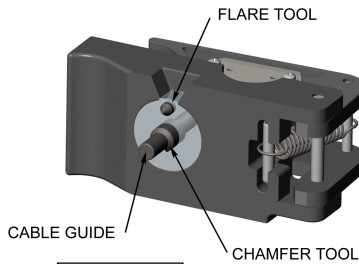

Figure 6.
7. Prepare the end of the cable with the combination chamfer and flare station located on the base of the Prep Tool. Insert the cable guide into the center conductor. Press down while turning the Prep Tool. See Figure 6.